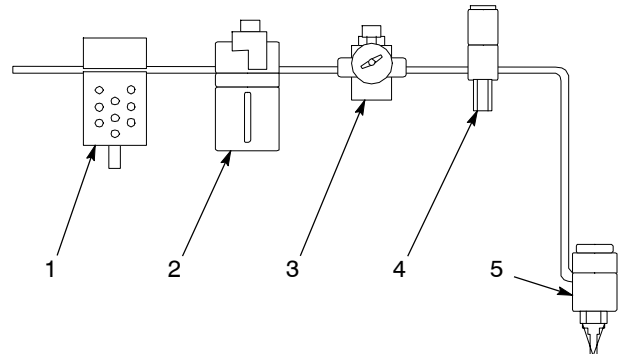

Figure 5 Air Line Connection Schematic to Dispensing Valve
1. See Figure 5. Install a filter (1), lubricator (2), and regulator (3) in the air supply line.
2. Install a solenoid valve (4) as close to the dispensing valve as possible. Attach an air line to the A port of the solenoid valve.